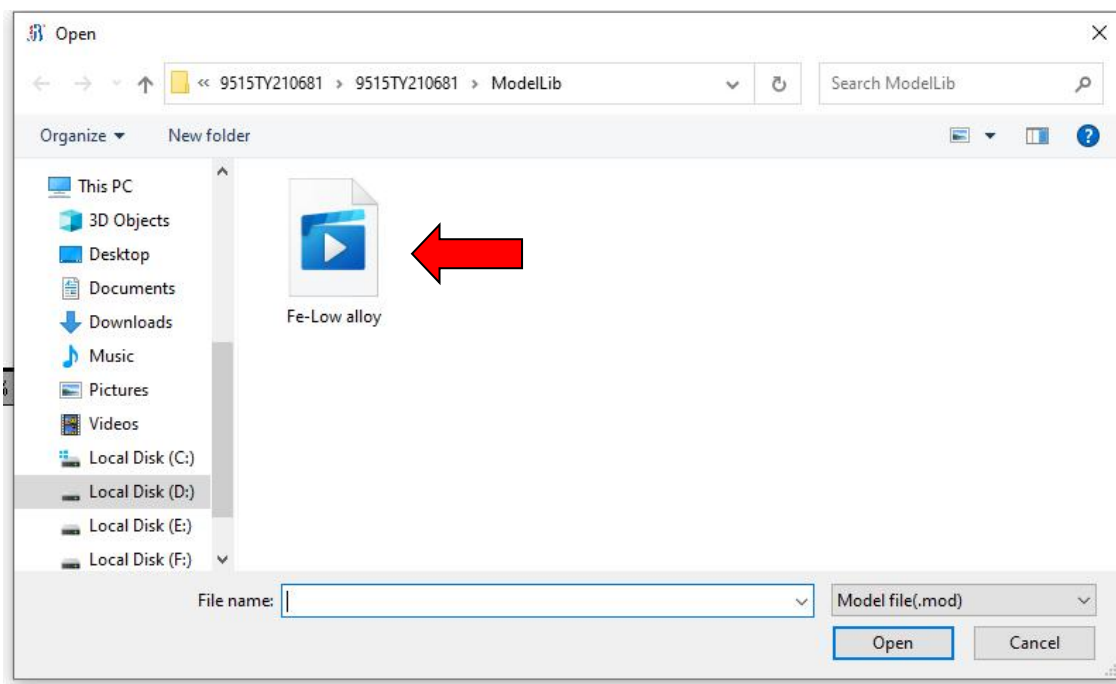

Figure 4-9 Working curve
Step 3 Select the desired curve and click “OK”, as shown in Figure 4-9: